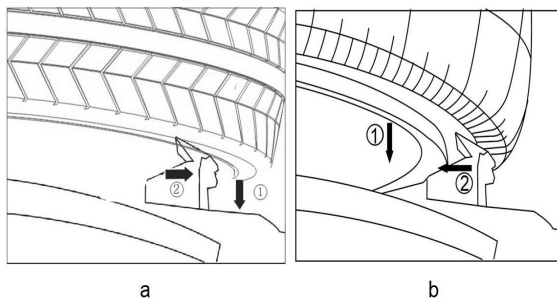

Fig.15
- In case of inside clamping, ( fig.15-a ) , depress pedal D , shrink the jaws together , place the wheel on the turntable and depress pedal C to clamp .
- In case of outside clamping, ( fig.15-b ) , enlarge the jaws outward(2-3cm away from edge of the rim), and place the wheel on the turntable, press the rim close to the jaws, depress pedal D to clamp it..